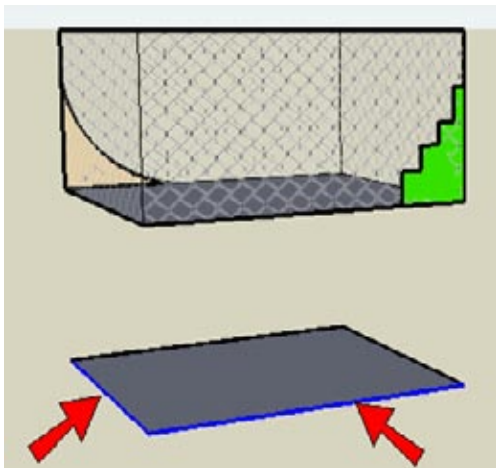

Figure 4-53
6. Because the fence box is a group, you can’t select edges within it to define a Follow Me path. So you’ll use the edges of the face you copied from the bottom of the box. Select the two edges of the face shown in Figure 4-53.